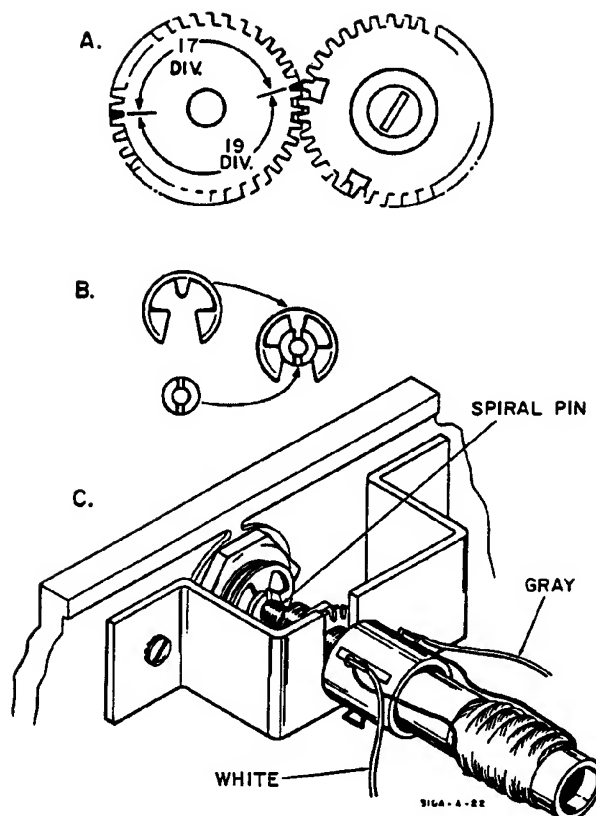

Figure 5-5. Zero Set Assembly
- a. Unsolder white lead and grey lead from coil (refer to Figure 5-5).
- c. Remove E-shaped retaining ring (B).
Note: Insert coil fully into opening of bracket before tightening locking nut. See Figure 5-5.
- m. Reconnect white and gray leads to coil as shown in Figure 5-5.